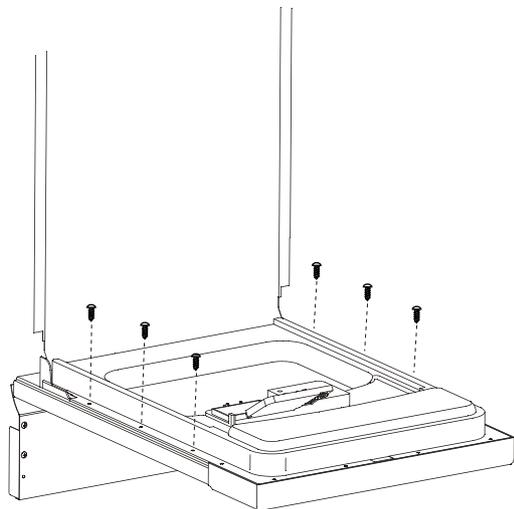

Figure 5
- Open the dishwasher door and reinstall the original 6 Phillips head screws to attach the inner door to the trim kit assembly (Figure 5).